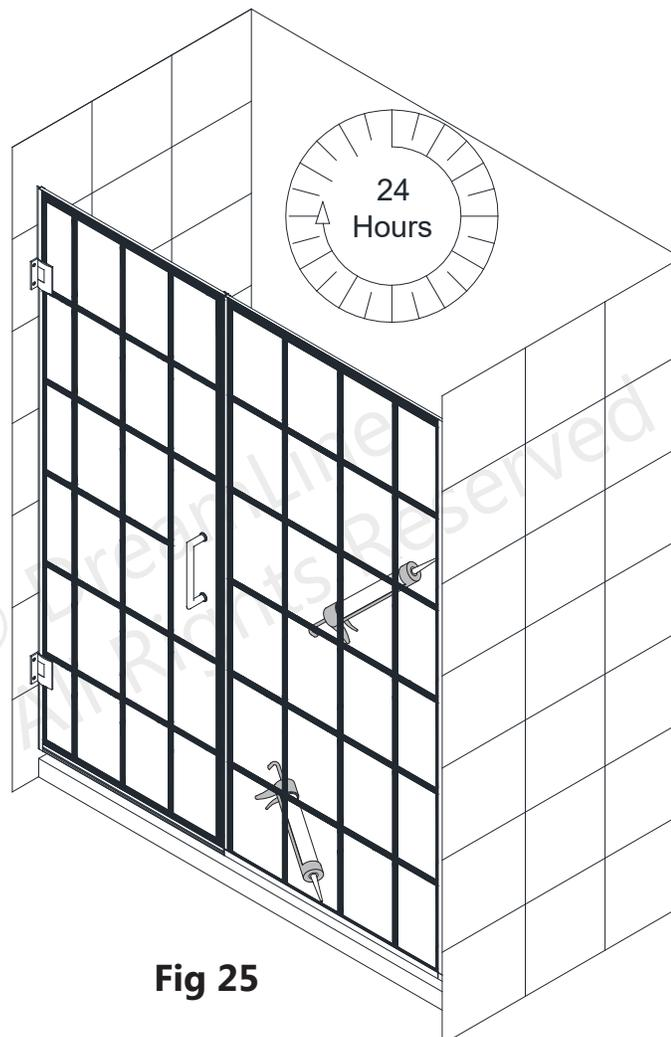

Fig 25
25. From inside the shower, apply a good quality mildew-resistant silicone where the u-channels meet the walls and threshold. Silicone may also be applied on the outside of the u-channels if desired. (**Fig 25**)